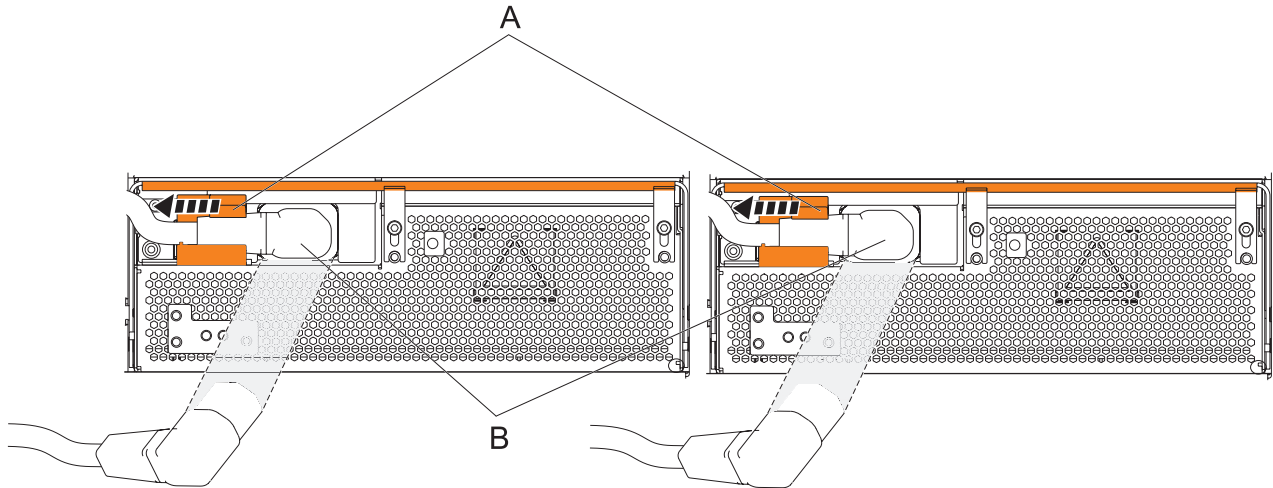

Figure 64. Disconnecting the OCA power cords
- a. Slide the power cord holders **(A)** to the left, located on the front of both the OCAs. See Figure 64 on page 81.